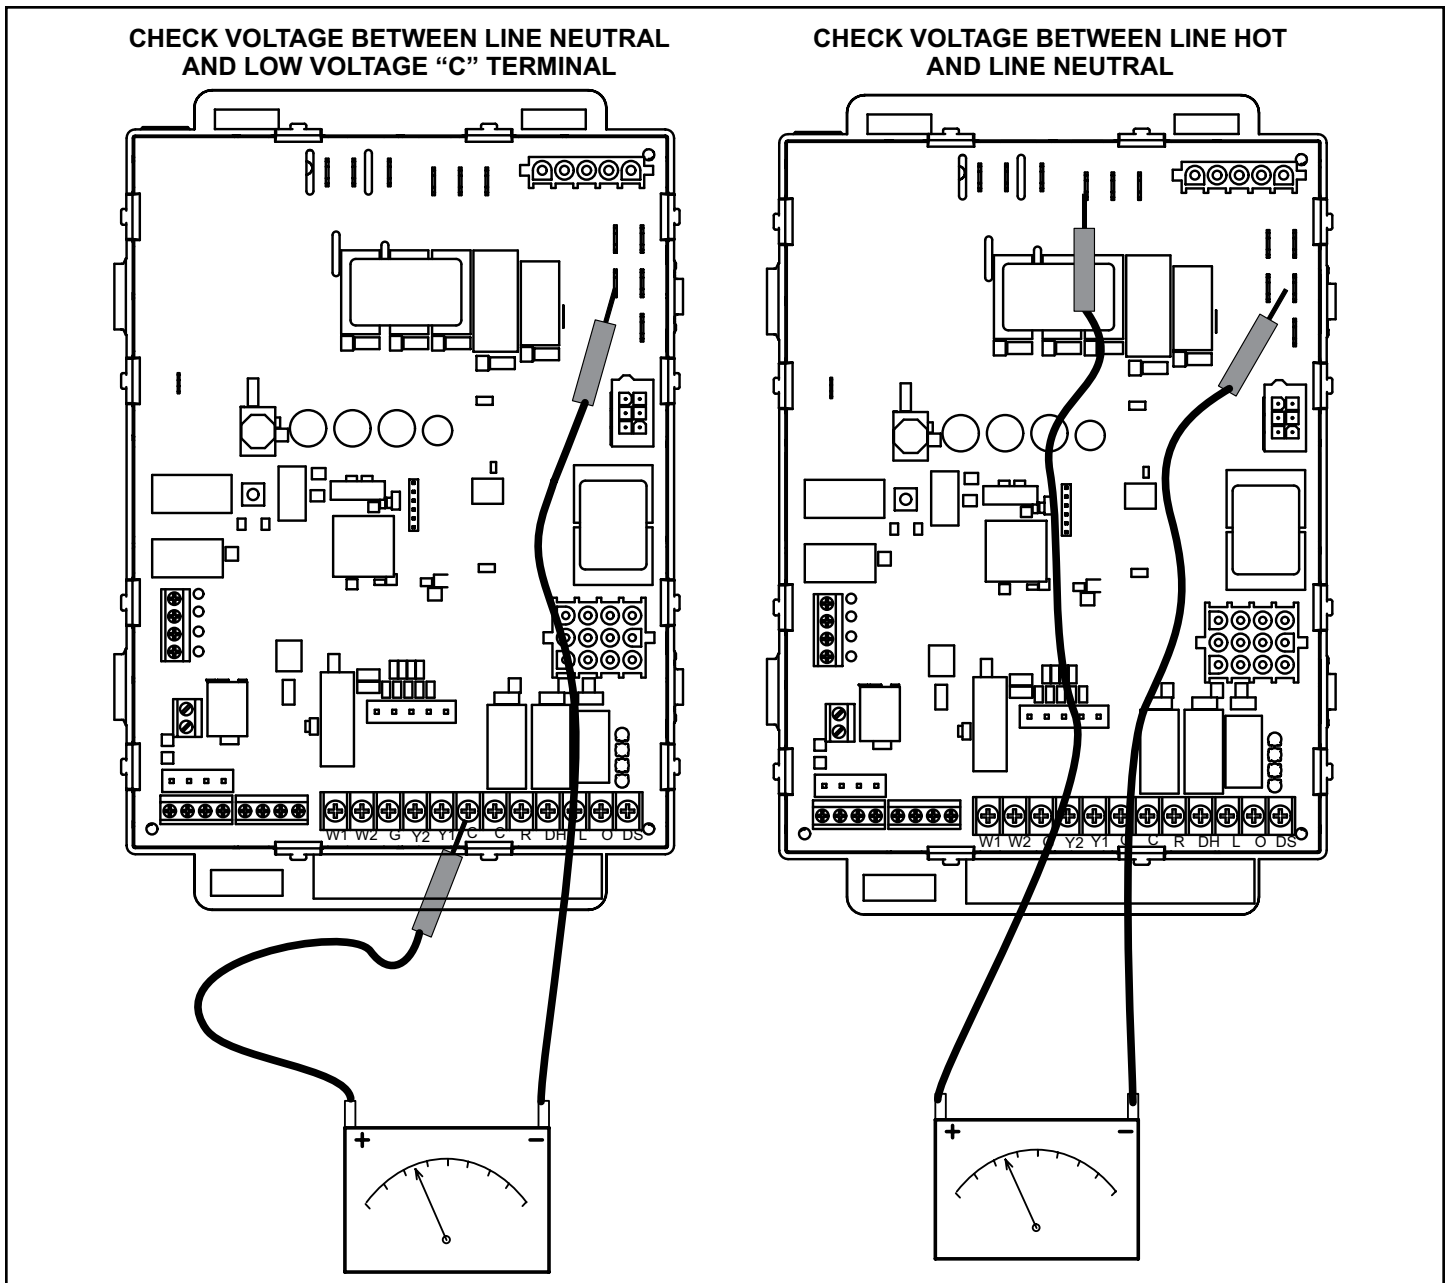

Figure 49.
1. Measure the AC voltage between Line Neutral (spade terminals) and "C" terminal (low voltage terminal block) on the integrated control. See Figure 49. A wide variation in the voltage between Line Neutral and "C" as a function of load indicates a poor or partial ground. Compare the readings to Table 26. If the readings exceed the maximum shown in Table 26, make repairs before operating the furnace.
2. In addition, measure the AC voltage from Line Hot to Line Neutral (spade terminals) on the integrated control. See Figure 49. This voltage should be in the range of 97 to 132 VAC